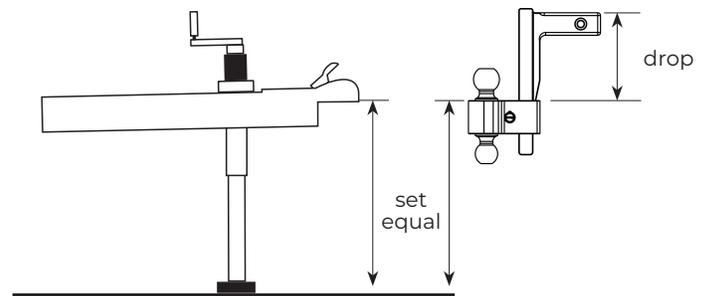

Figure 1
7. Measure from the ground to the bottom of the coupler on the trailer. Rotate the ball holder to use the correct hitch ball for your trailer. Align the top of the ball holder with the notches on the edges of the drop bar to center the ball holder bolt with the adjustment hole of the drop bar. Then lock the ball holder into place on the drop bar at that height by tightening the ball holder to the drop bar using the included hex key. (Figure 1)